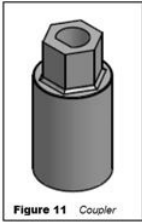

Figure 11 Coupler
In the event that power is lost to the slideout motor(s) or the override mode above will not work, the room may be manually retracted using a ratchet and socket attached to the end of the coupler (Fig 11).
4. Press a component button in the menu (**Fig 10**) to enter the function operation screen (**Fig 11**). To return to the previous screen press the chrome “HOME” button at the bottom of the remote.
5. In the example (**Fig 11**), pressing and holding the left arrow retracts the awning, and pressing and holding the right arrow extends the awning. The graphic of the awning animates to show the awning is operating.